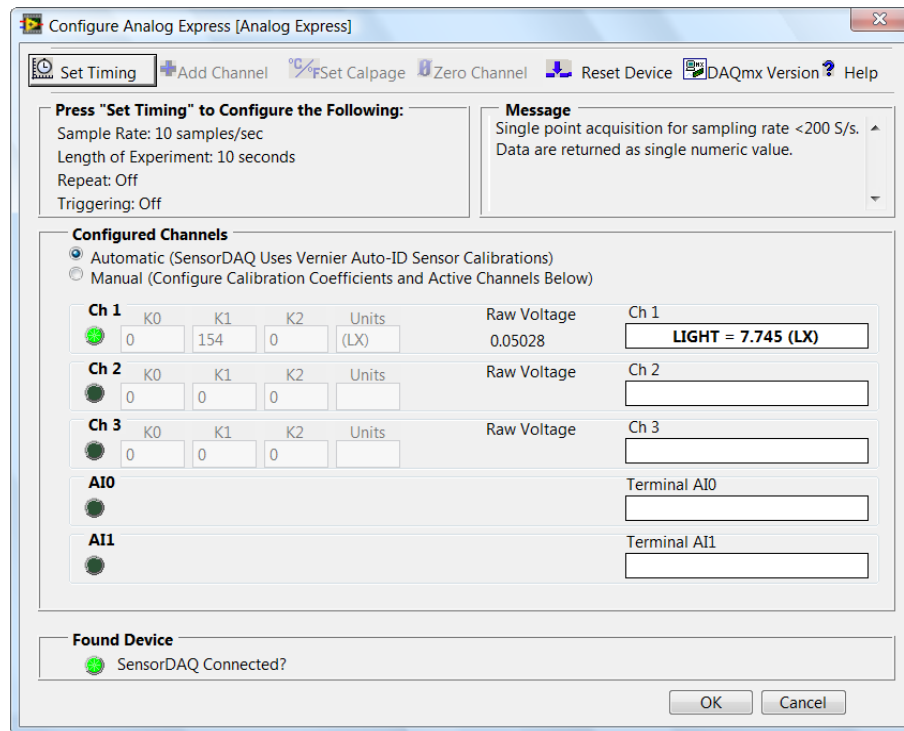

Figure 1.7: Analog Express VI configuration window
5. When the configuration window of the Express VI opens, click the Set Timing button, which is located in the upper-left corner of the configuration window (see Figure 1.7).